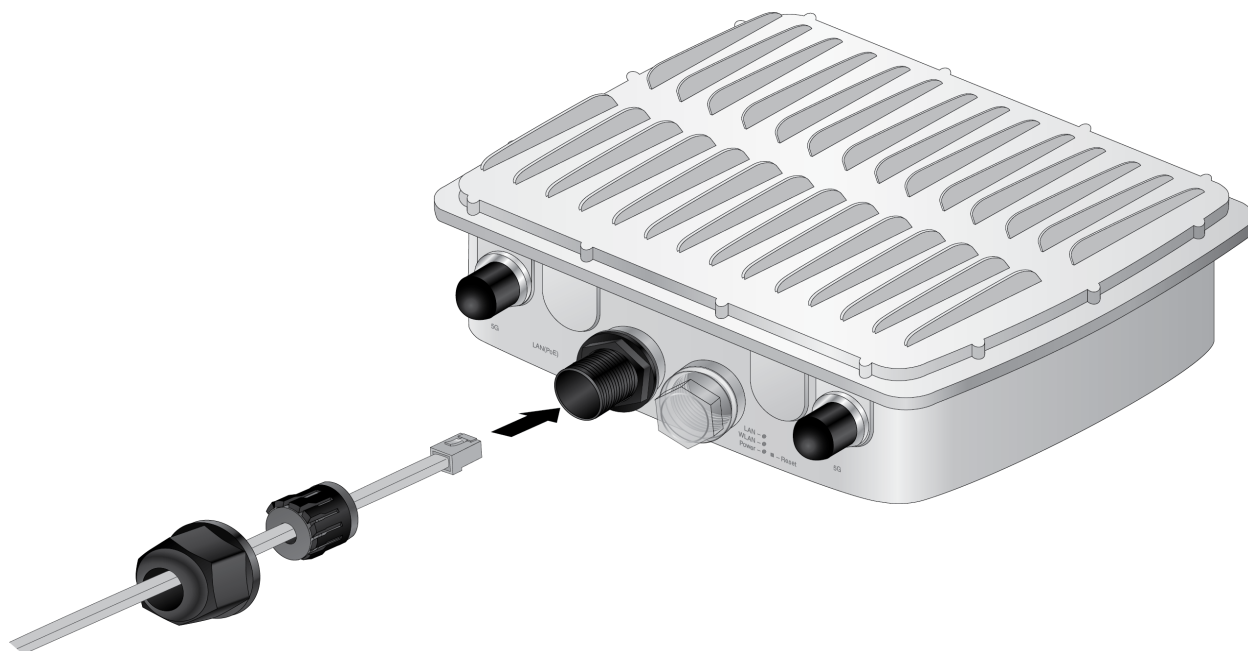

Figure 13. Connecting the LAN Cable to the Ethernet LAN Port
7. Connect the RJ-45 connector on the Ethernet cable into the Ethernet LAN port inside the sealing assembly. Refer to Figure 13 on page 46.